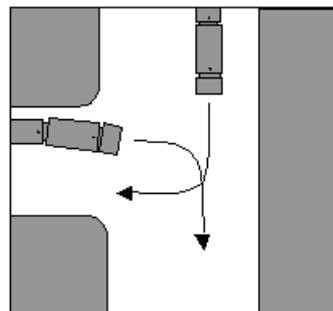

Fig 12
35.3.2 right into a depot, you must approach the entrance to the left of, parallel to and as near as practicable to the centre of the road (Fig. 12);
35.3.3 right out of a depot, you must enter the road by moving to the left of the centre of the road (Fig.12).